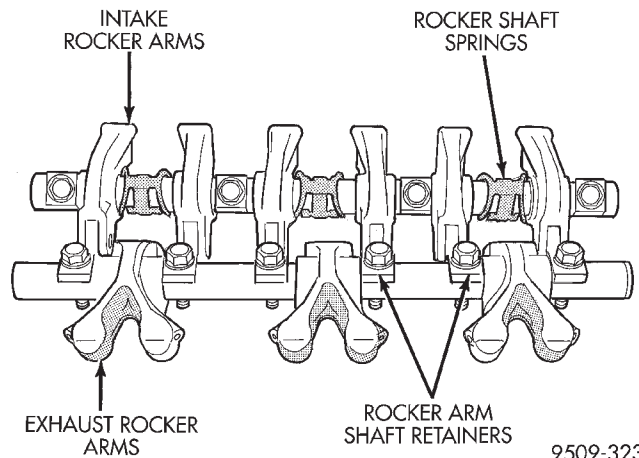
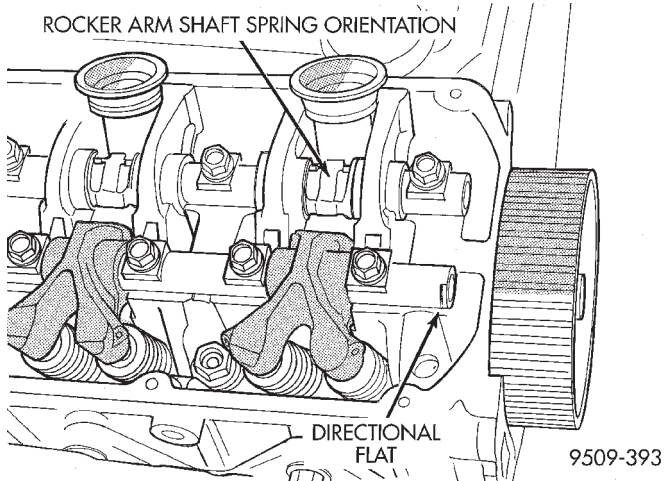

Fig. 36 Rocker Arm Shafts
Fig. 37 Rocker Arm Shaft Flat
- (5) Mark rocker arm/hydraulic lash adjuster assemblies for reassembly in their original position. Remove rocker arm/hydraulic lash adjuster assembly. Lash adjusters are serviced as an assembly with the rocker arm (Fig. 36).
- (1) Install rocker arm and shafts with the FLAT on the shafts facing the timing belt side of the right cylinder head (Fig. 37). For the left cylinder head, install rocker arm and shafts with the FLAT on the shafts facing the transmission side of the engine. Install the retainers and spring clips in their original positions on the exhaust and intake shafts (Fig. 36).